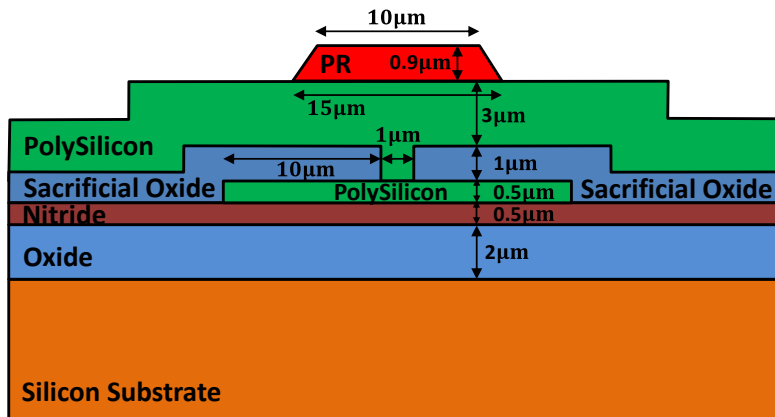

Fig. PS2.1-1
1. You are given a wafer with the cross-section shown in Figure PS2.1-1 and intend to release etch the structure, i.e., to leave only the polysilicon structure atop the blanket nitride/oxide layer. To perform the release, you need to do the following steps:
- ii. Remove photoresist (PR).